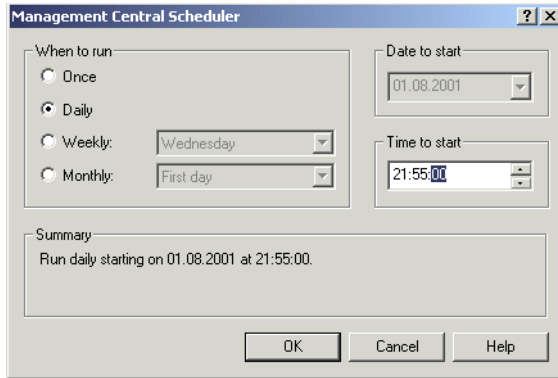

Figure 8-55 Management Central Scheduler
4. The Management Central Scheduler window (Figure 8-55) appears. Enter the frequency and time you want this command to run. Click **OK** to schedule the task.